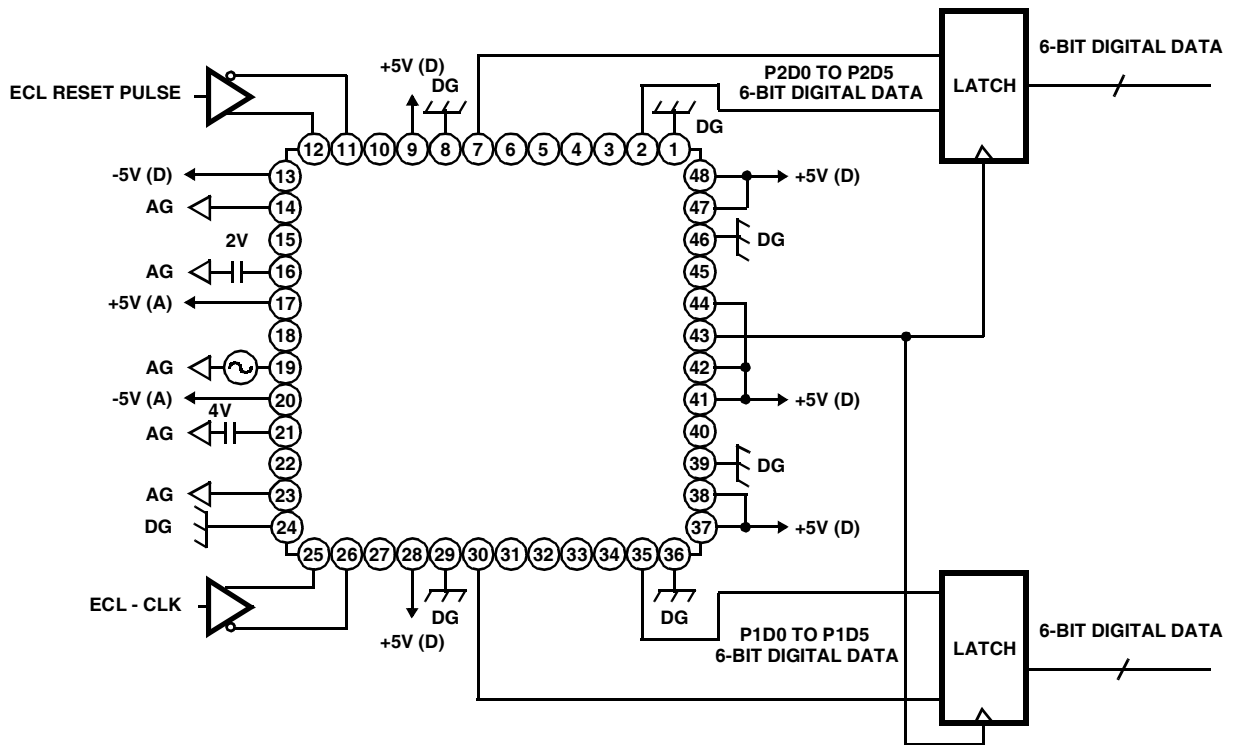

FIGURE 19. DEMUX ECL INPUT
**Demux Mode** (See Figures 19, 20, 21).